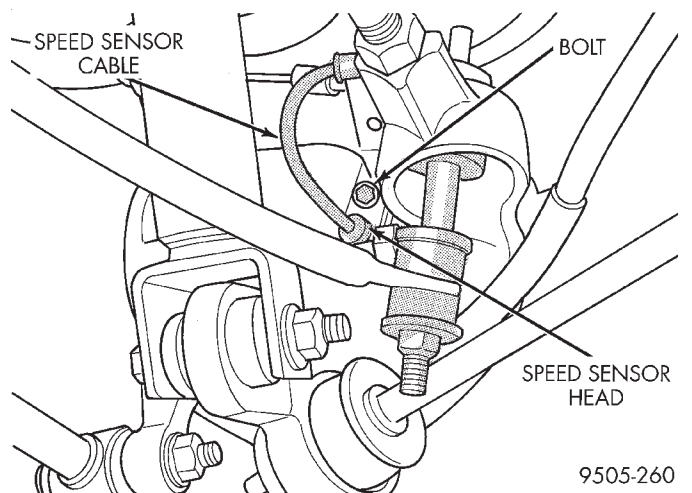

Fig. 48 Rear Speed Sensor Head Attachment To Brake Support Plate
(6) Remove the rear speed sensor from the rear brake support plate (Fig. 48).
(1) Install speed sensor head into brake support plate (Fig. 48).
(2) Install wheel speed sensor attaching bolt (Fig. 48). Tighten the speed sensor head attaching bolt to 8 N·m (75 in. lbs.)